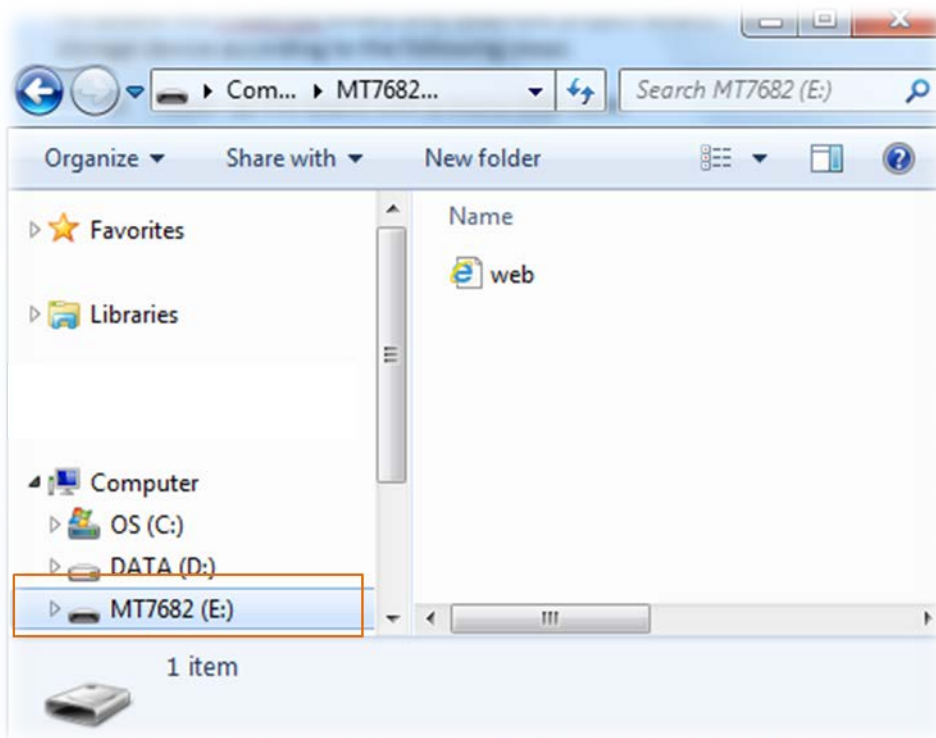

Figure 4. New removable storage detected
The development board should now be connected to the PC, as shown in Figure 4.
- 2) Navigate to **Computer** on your PC to check if a new mass storage named **MT7682** is available under **Removable Disk**, as shown in Figure 4.